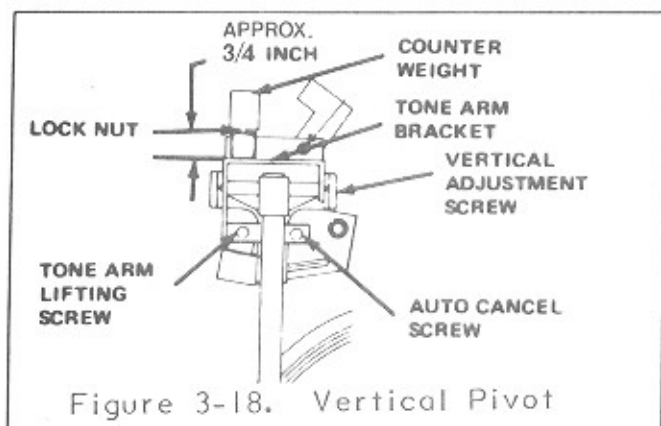

Figure 3-18. Vertical Pivot
1. The stylus force should be three to four grams. If a gram gage is not available, an approximate force can be set by adjusting the distance between the tone arm weight and the tone arm bracket. This distance should be  $3/4$  inch for 3-1/2 grams stylus force (See Figure 3-18.).